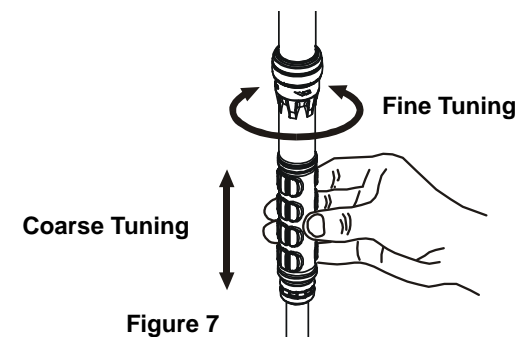

Figure 7
2. Referring to Figure 7, raise and lower the coil assembly while listening to the band noise, and seek the position of the coil assembly producing the most noise in the receiver. If a peak in the sensitivity is not obtained when the coil assembly is fully retracted to the lowest (shortest) position, remove one radiating element from the coil assembly and try again. You may have a total antenna length that is too long.
4. Referring to Figure 7 again, carefully turn the coil assembly to the right or to the left while the transceiver is receiving. After making an adjustment, stand away from the antenna and check the SWR again, and repeat (or reverse) the procedure until the best SWR is obtained. **Do not touch the coil assembly during a transmitting session.**